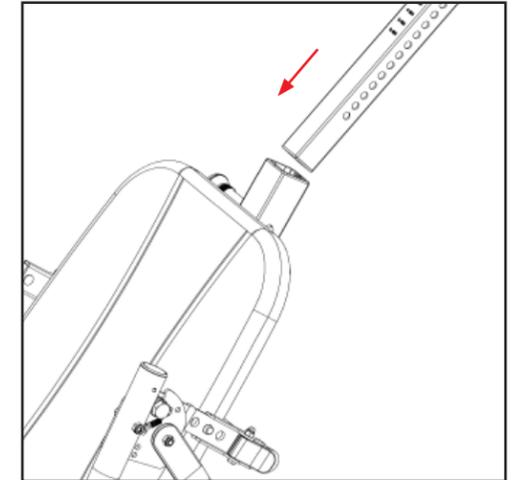

Figure 9
- With the height adjustment settings on the Main Shaft facing up, slide the end of the Main Shaft into the bushing in the Main Shaft housing (Figure 9).